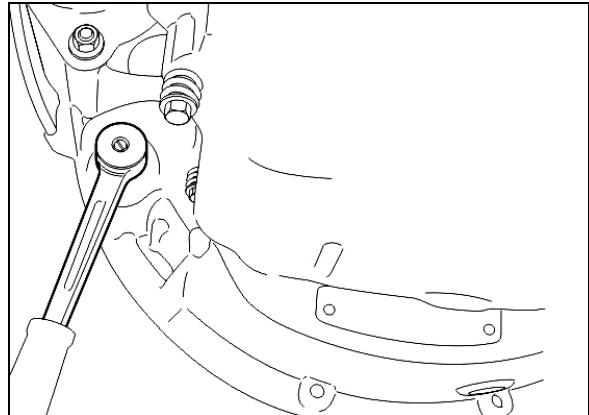

FIGURE 12: VOLVO ENGINE CRANKING POSITION
*Remove starter motor located on engine L.H. side. Removing the starter motor will allow access to unfasten the 12 converter-to-flexible plate attaching screws. Remove the plug located below starter motor and install cranking tool (88800014). Cranking the engine to gain access to the attaching screws may be done by turning the cranking tool using a suitable adapter (fig. 12).*
*Remove the plug located below starter motor and install cranking tool (88800014). Crank the engine to gain access to the threaded holes by turning the cranking tool using a suitable adapter (Refer to fig. 12).*